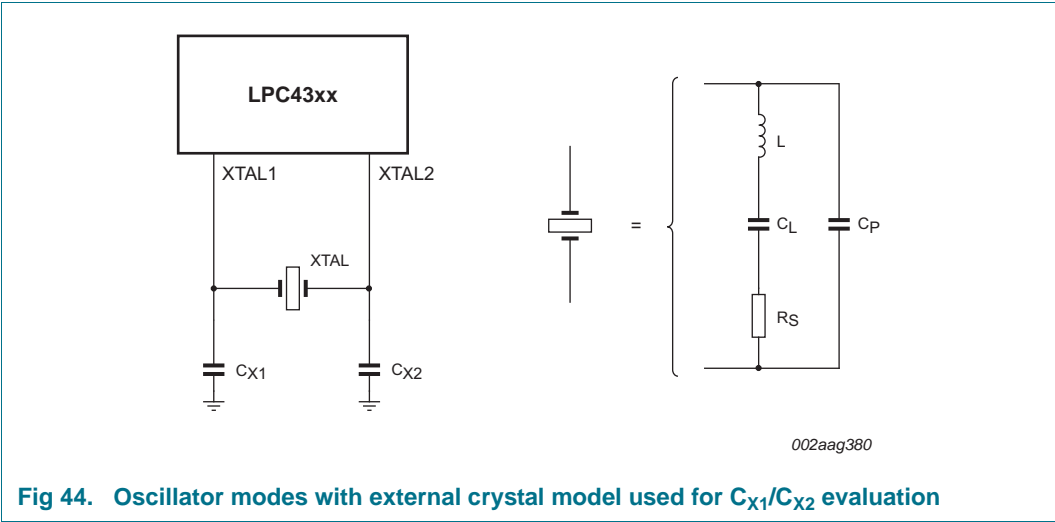

Fig 44. Oscillator modes with external crystal model used for C_{X1}/C_{X2} evaluation
- External components and models used in oscillation mode are shown in Figure 44, and in Table 43 and Table 44. Since the feedback resistance is integrated on chip, only a crystal and the capacitances CX1 and CX2 need to be connected externally in case of fundamental mode oscillation (L, CL and RS represent the fundamental frequency). Capacitance C_P in Figure 44 represents the parallel package capacitance and must not be larger than 7 pF. Parameters FC, CL, RS and CP are supplied by the crystal manufacturer.